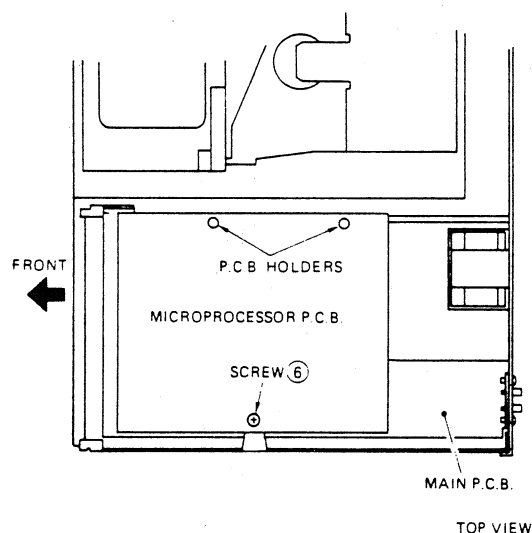
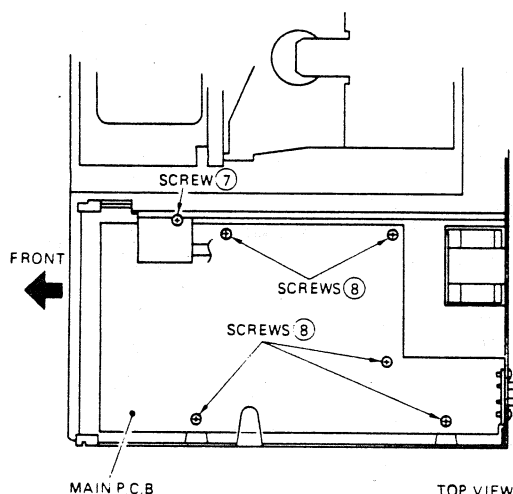

Fig. 4
Fig. 5
- 1) Remove screw (6) from the P.C.B. If the P.C.B. is raised up at the screw (6) side the main P.C.B. just under the microprocessor P.C.B. can be checked and adjusted.
- 3) Pull 2 P.C.B. holders and remove the P.C.B. (Fig. 4)
- 1) Remove the power switch fixing screw (7) and remove the power switch.
- 4) Remove 5 P.C.B. fixing screws (8). (Fig. 5)
- 1) Remove the microprocessor P.C.B. and main P.C.B. (Fig. 4, Fig. 5)